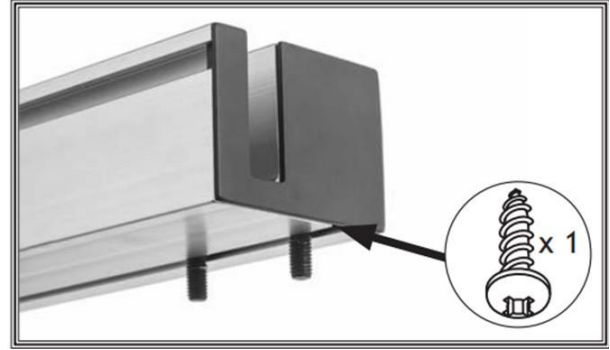

Figure 19: Endcaps reinstalled.
12 - Reinstall the endcap and screw it with the tap screw on the fence's rail (see figure 19).
15 - To install the rear fence rail use (8) M8-1.25X25mm cap screws (see figure 19). Secure the outer four cap screw with M8-1.25 hex nuts.